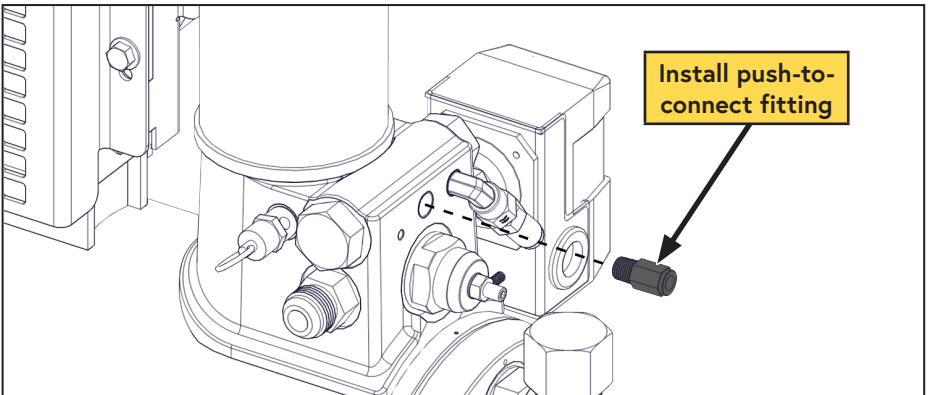

Figure 37 — Install push-to-connect fitting
- Apply Loctite 567 (thread sealing) compound to the 1/4 in push-to-connect fitting and install it into the threaded hole which previously held the blowdown muffler (Figure 37).